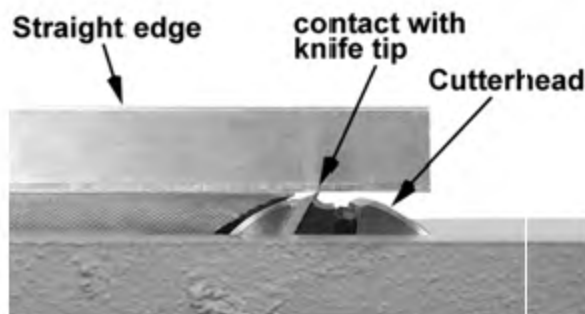

Figure 8-10
6. Raise or lower the outfeed table until the straight edge contacts the knife tip, as shown in Figure 8-10. Using the drive belt or pulley, rock the cutterhead slightly to make sure the apex of the knife is just barely contacting the straight edge.